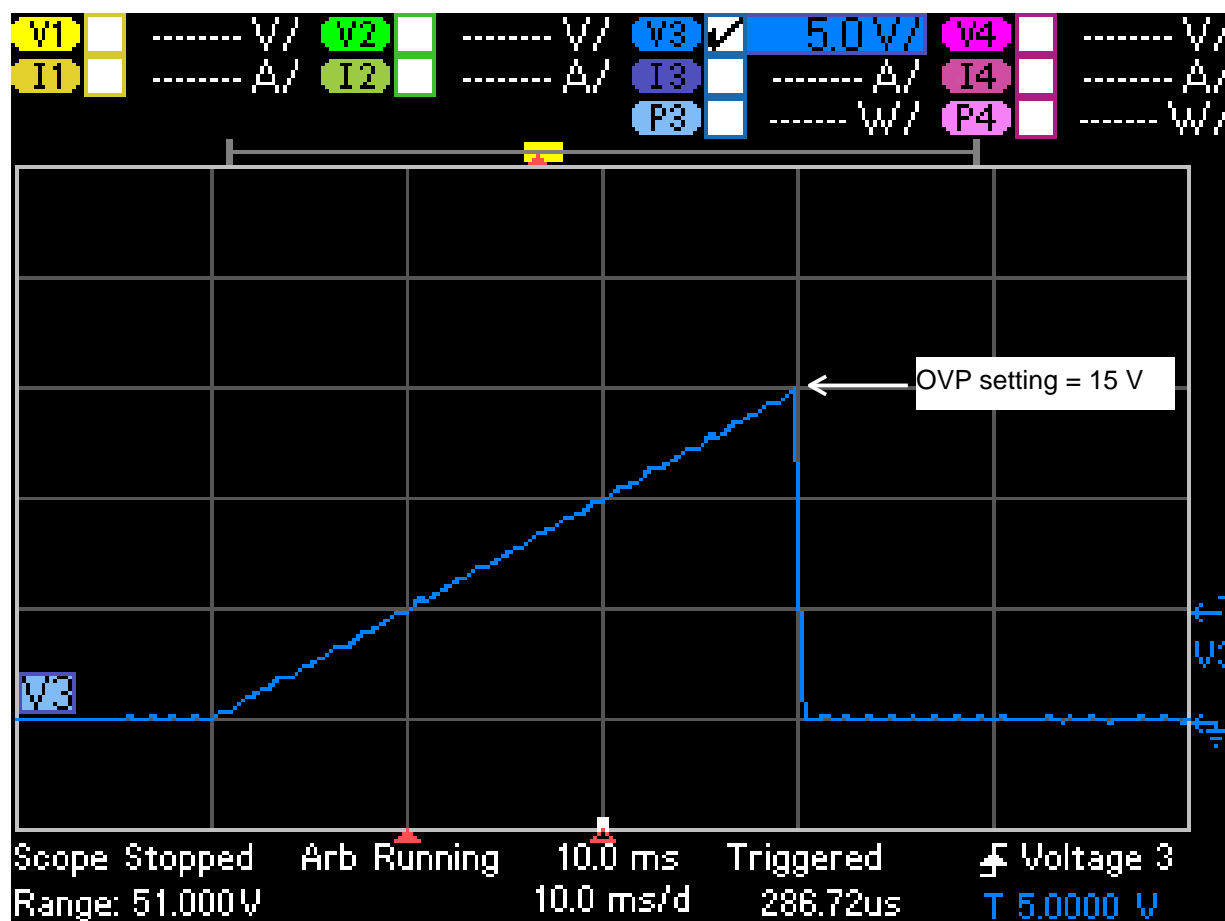

Figure 5. An overvoltage shutdown occurs when the output voltage reaches the 15 V OVP setting, protecting your DUT
Overcurrent protection (OCP) uses the constant current (CC) setting. Suppose the actual output current reaches or exceeds the CC setting, causing the power supply to go into CC mode. The output would shut down, protecting the DUT from continuous excessive current. Figure 5 shows an example of an OVP shutdown.